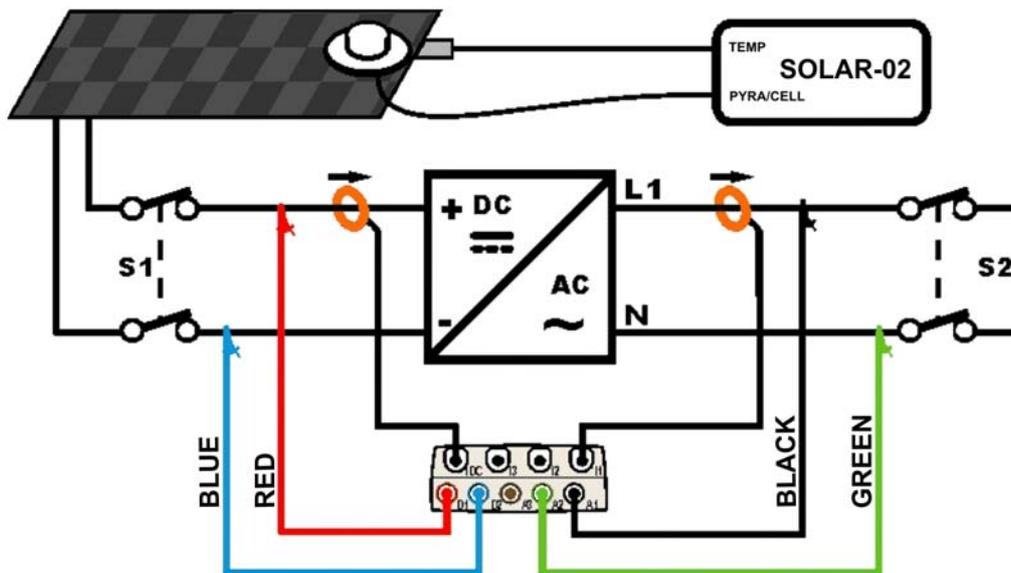

Fig. 243: Connecting the instrument in a PV-1 system with SOLAR-02
3. Connect inputs **D1** and **D2** to the positive and negative string output pole respectively. Connect inputs **A1** and **A2** to the phase and neutral conductors, respecting the colors as shown in Fig. 243
4. Connect the DC current clamp to the positive string output conductor **by respecting the direction of the arrow** on the clamp itself as indicated in Fig. 243. **Check the status of internal batteries of the DC clamp after the connection to the installation**
5. Connect the AC current clamp to the Phase L1 conductor **by respecting the direction of the arrow** on the clamp itself as indicated in Fig. 243. Connect the output of the clamp to the **I1** input of the instrument.